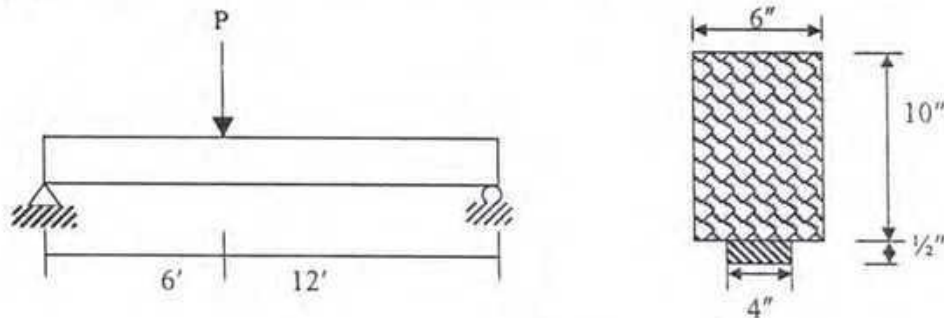

Fig. 4
Q5. A $6'' \times 10''$ timber beam is reinforced only at the bottom by a steel plate, as shown in the Fig. 4. The beam is loaded in a 18' simply supported span. If $E_s = 20E_w$, $\sigma_s \leq 18 \text{ ksi}$ and $\sigma_w \leq 1.2 \text{ ksi}$, find the value of P. (10)